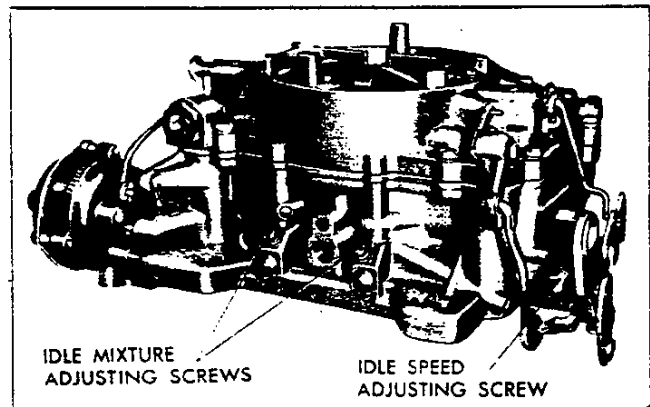

Fig. 9—Idle Speed and Mixture Screws
3. Adjust idle speed adjustment screw (fig. 9) to give proper idle speed. See Specifications.